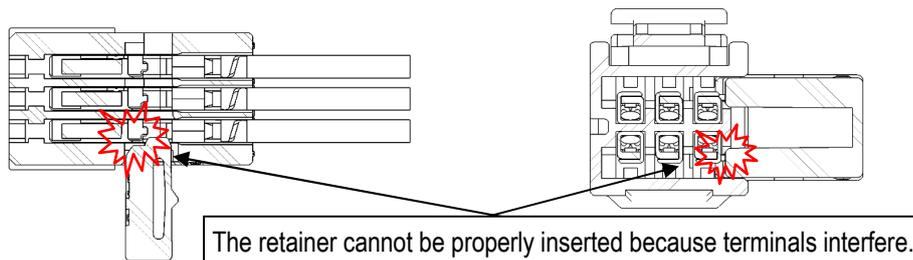

Fig33. Insufficient retainer installation
③ When terminal(s) is/are insufficiently inserted as shown in Fig.33, the retainer cannot be installed.